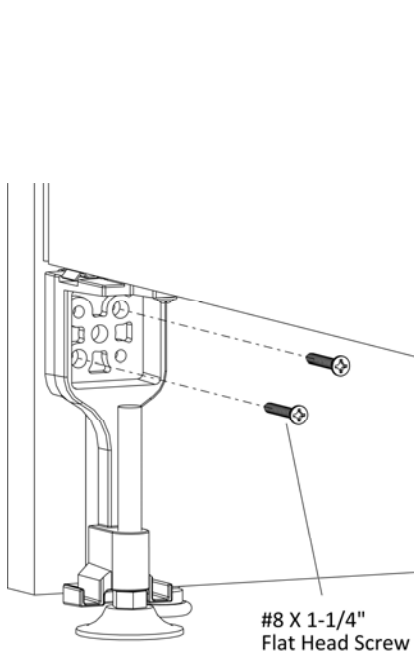

Figure 5
- Drive two #8 X 1-1/4" Flat Head Screws through the holes in standard panel leg into the pre-drilled holes of gallery panel, (Figure 5).